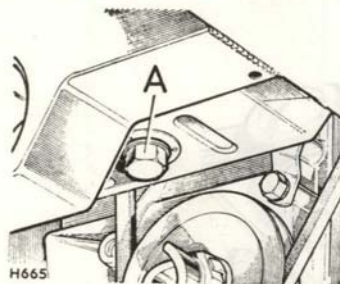

Fig. 44 Radiator drain plug
- (1) Examine the hose connections, which should be free from cracks or signs of perishing. Tighten the hose clips as necessary.
- (2) Examine the cylinder block core plugs for signs of leaks. Renew if necessary.
- (3) Check the following connections for signs of leakage. Inlet manifold to outlet pipe; inlet elbow to thermostat; inlet pipe to coolant pump.
- (4) Check connection between coolant pump and thermostat housing. Check coolant pump and thermostat housing for signs of leakage.
- (5) Check that the radiator drain plug and cylinder block drain tap are fully closed. See para. 104, Fig. 44 and 45.
- (6) Ensure that the bolts securing the radiator block to the grille panel are tight.
- (7) Check that the bolts and nuts securing the fan to the fan pulley are tight.
- (8) Check that the bolts securing the coolant pump and the thermostat housing to the cylinder block are tight.
- (9) Check the fan belt tension and adjust if necessary. See para. 103.
- (10) Check that the radiator block is not damaged.